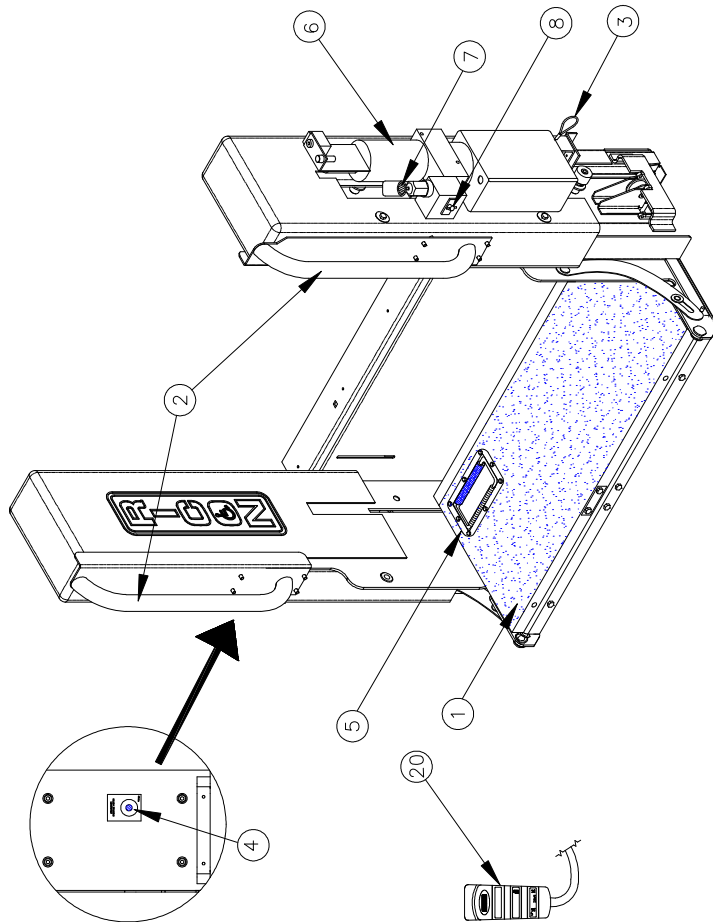

FIGURE 2-3: STEP-ELEVATOR COMPONENTS
Major components referred to throughout this manual are illustrated in **Figures 2-3** and **2-4**, and defined in **Table 2-2**.
- Refer to Figures 2-3 and 2-4 in Chapter 2 for the locations of the handles, latches, etc, used to operate the step-lift.